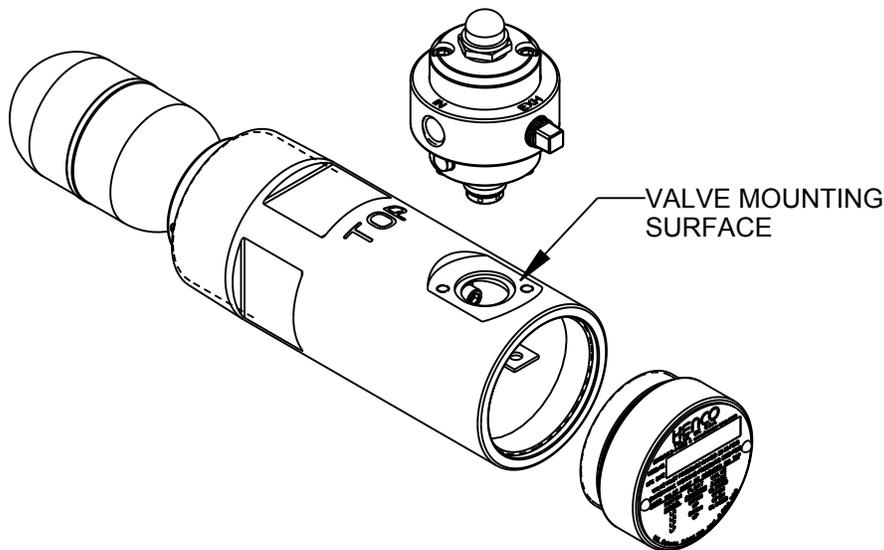

FIGURE 3
8. With the exhaust port facing the back of the KPFS switch body as shown in Figure 3, insert the valve into the KPFS switch body. Screw in and torque the mounting screws to approximately 20 in-lbs to secure the valve assembly in place.